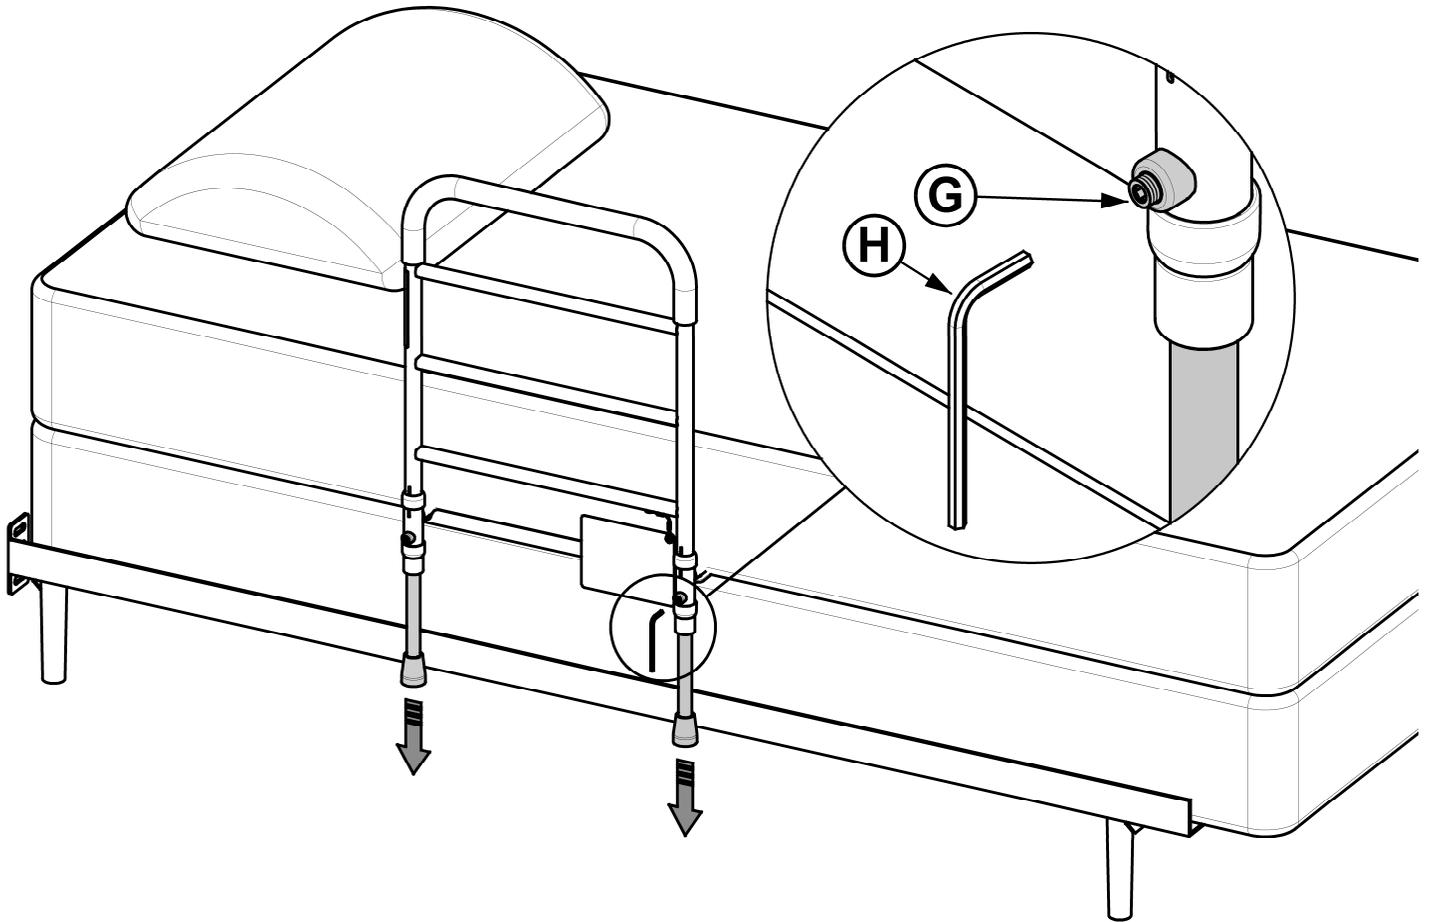

FIGURE 4
4. Place Bedrail under mattress as shown in *FIGURE 4*. Remove *Step 4 sticker* and bring Legs (C) to the floor and finish securing G with tool (H).